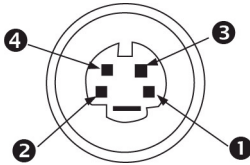

Figure 4.2 Y/C Connection Pinout
There is one (1) mini-DIN type connector for the S-Video (Y/C) input (see *Figure 4.2*) on the rear side panel.